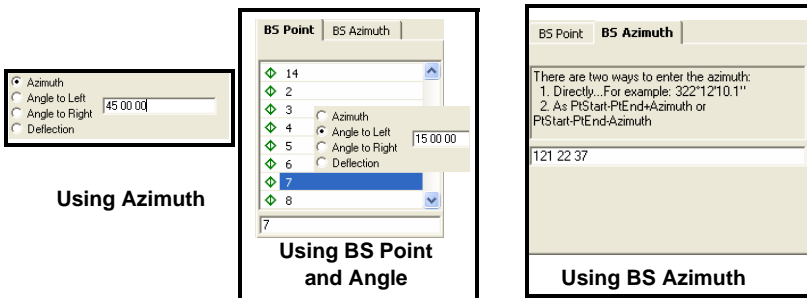

Figure 9-99. Select and Enter Direction to Traverse Point
3. Click **Calculate**. A new point is created and, its coordinates are calculated (Figure 9-99 on page 9-80). The *Point* tab and *Map View* display this point with a unique default name (cogo, cogo(2), etc.).
4. Enter the direction to the traverse point using one of the following methods (Figure 9-99 on page 9-80):